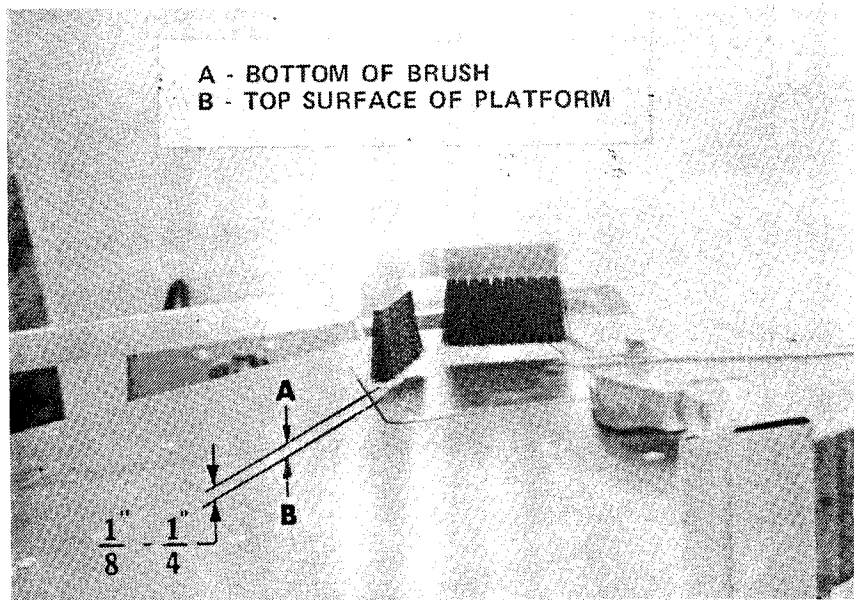

Fig. 97 — Brush Clearance
12.2 Brushes too high off platform.	12.2 Adjust brushes to within 1/8" – 1/4" off platform (refer to Fig. 97 page S-10).